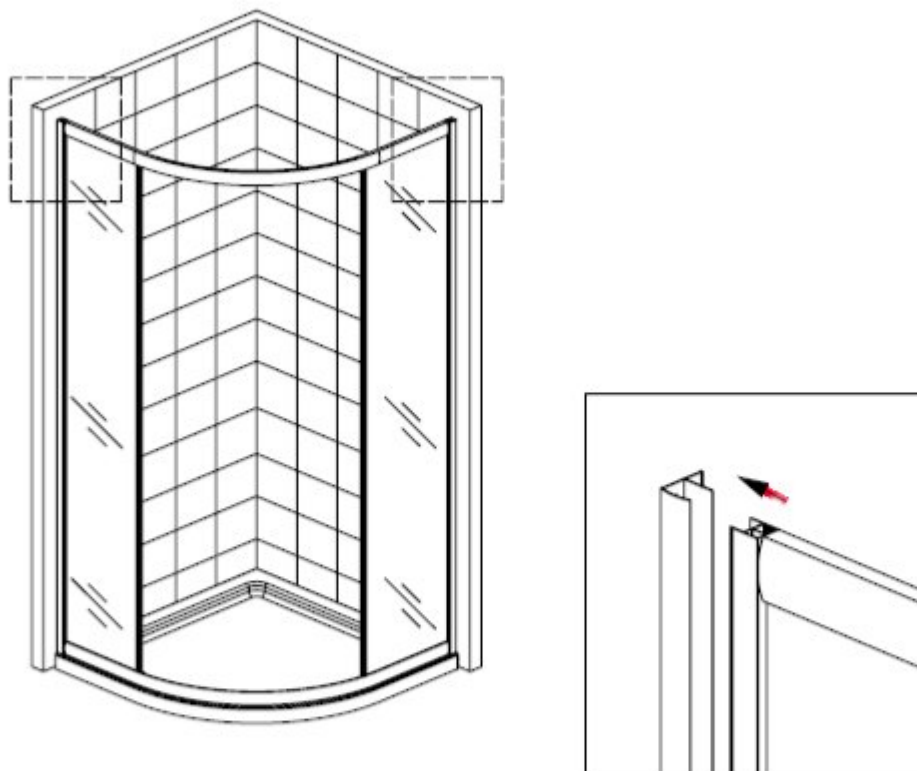

Figure 8
8. Move the whole door set finished in step 7 to the wall profile(N6Q1),as showed in figure 8.